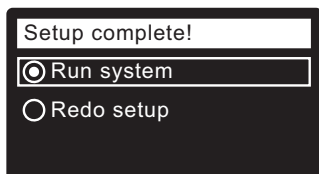

FIG. 31
14. Press the SELECT (O) button. The screen will show "Setup complete!" (See Figure 31).
15. If, at this point, you want to go back and make changes, press the DOWN (▼) button to scroll to **Redo setup**, then press the SELECT (O) button twice to repeat the "wizard" screens.
16. If no changes are desired, make sure **Run system** has a dot next to it (See Figure 31) and press the SELECT (O) button. The unit begins normal operation.